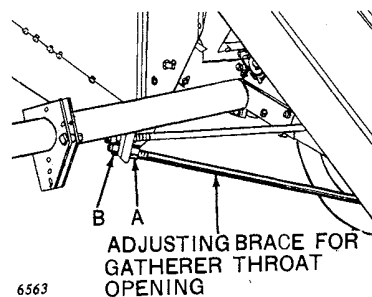

Figure 7
**To Adjust:** (See Figure 7.) To enlarge opening, loosen lock nut, "A," and thread nut, "B," onto adjustable round brace and off to make opening smaller.